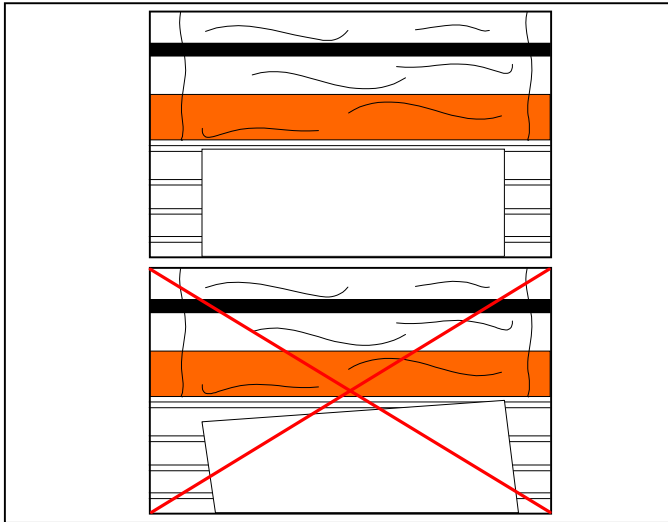

Fig. 25
8. Align the leading edge of the item square to the main roller nip (Figure 25).